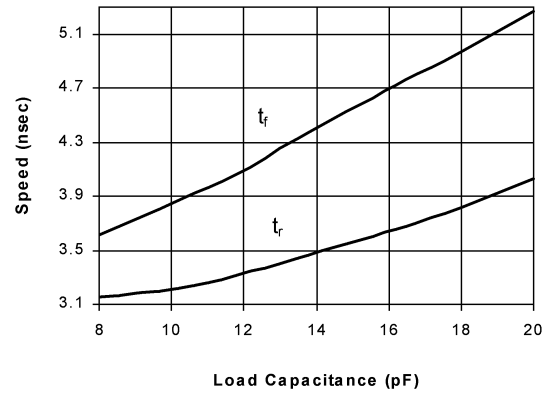

FIGURE 8. Speed vs Load Capacitance
*Figure 8* shows the effect of increased load capacitance on the speed of the device. This demonstrates the importance of knowing the load capacitance in the application. The rise time increased about 0.08 nsec for an increase of 1 pF in the load capacitance. The fall time increased about 0.14 nsec for a 1 pF increase in the load capacitance.